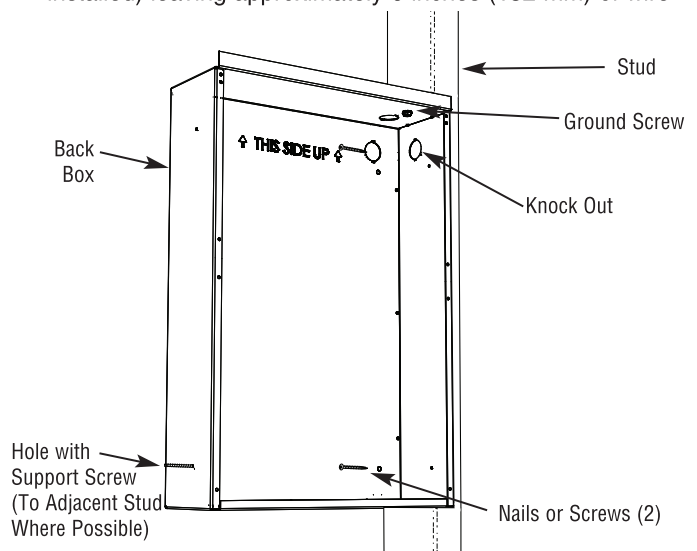

Figure 2 - Attaching Backbox to Stud
1. In new construction without the finished wall in place, position the back box against the side of stud allowing the side to extend beyond the stud so it will be flush with the finished wall surface. (You must know the thickness of the finished wall when installing) Secure the box to the stud using two screws (not included) as shown in Figure 2.
- a. When possible, install an additional long screw (such as a 3" wood screw) through the lower side mounting hole into the nearest stud (see Figure 2). Use care and do not over-tighten the screw as this will deform the backbox and make installation of the heater assembly difficult or impossible. Screw should only be tightened enough to keep screw in place.
- b. Drill a small hole in back box flush with the inside surface of the finished wall and install a screw (length not critical, but should be at least 1 inch) see Figure 2.
1. Locate a stud and carefully mark and cut a hole measuring 12-1/2" (318 mm) wide by 17-3/4" (451 mm) high so one side of hole is along the edge of a stud – see Figure 2.
3. Fit back box into opening aligning sides of box flush with finished wall surface and secure box to stud using two screws (not included) as shown in Figure 2.
cause the back box to pull out of alignment. See Figure 2.